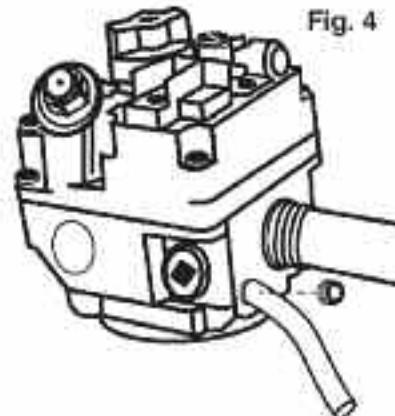

Fig. 4
1. Verify inlet gas pressure (1) does not exceed maximum inlet gas pressure shown on rating label; and (2) exceeds minimum inlet gas pressure shown on rating label.
2. Connect manometer or pressure gauge to gas valve outlet pressure tap, see Fig. 4. Place shut-off valve between gas valve and manometer (gas pressure can be introduced gradually to avoid pressure surge when gas valve opens that could blow liquid out of manometer. See Fig. 4).